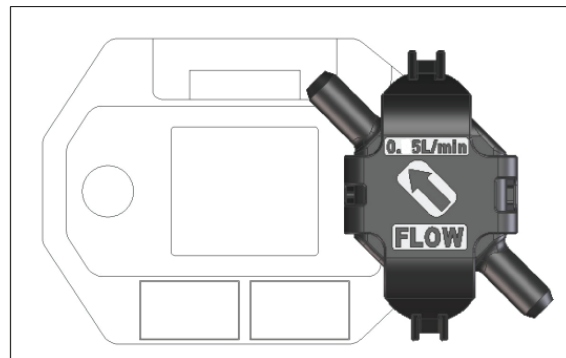
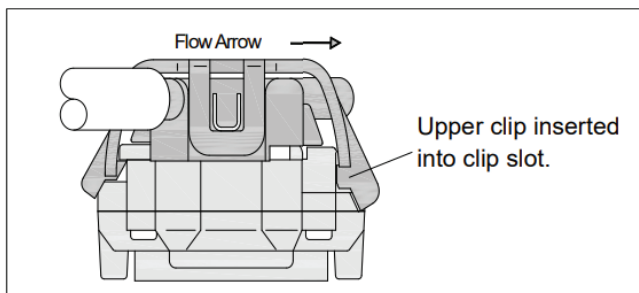

Figure 22
Figure 24
**5.4.2** Prior to attaching the calibration cup onto the COVX, ensure it is correctly positioned, as shown in Figure 22. The calibration cup's flow arrow must point up and to the left as shown.
**5.4.4** Gently press the other end of the cup onto the COVX until it snaps in place as shown in Figure 24. Do not force the calibration cup onto the COVX. If the calibration cup does not snap easily into place, confirm that the cup is oriented correctly on the COVX (Flow arrow points up and to the left of the COVX) as shown in Figure 22.
- 5.6.5** Connect the calibration cup to the front of the monitor over the sensor retainer. (The sensor retainer is located on the right side of the LCD screen). The calibration cup's arrow must point up and to the left, as shown in Figures 22 and 23. Gently press the cup onto the COVX until it snaps into place. Refer to Section 5.4 for additional information on connecting the calibration cup to the monitor.
**5.7.8** Connect the calibration cup to the front of the monitor over the sensor retainer. (The sensor retainer is located to the right of the LCD screen). The calibration cup's flow arrow must point up and to the left, as shown in Figures 22 and 23. Gently press the calibration cup onto the COVX until it snaps into place. *Refer to Section 5.4 for additional information on connecting the calibration cup to the COVX.*